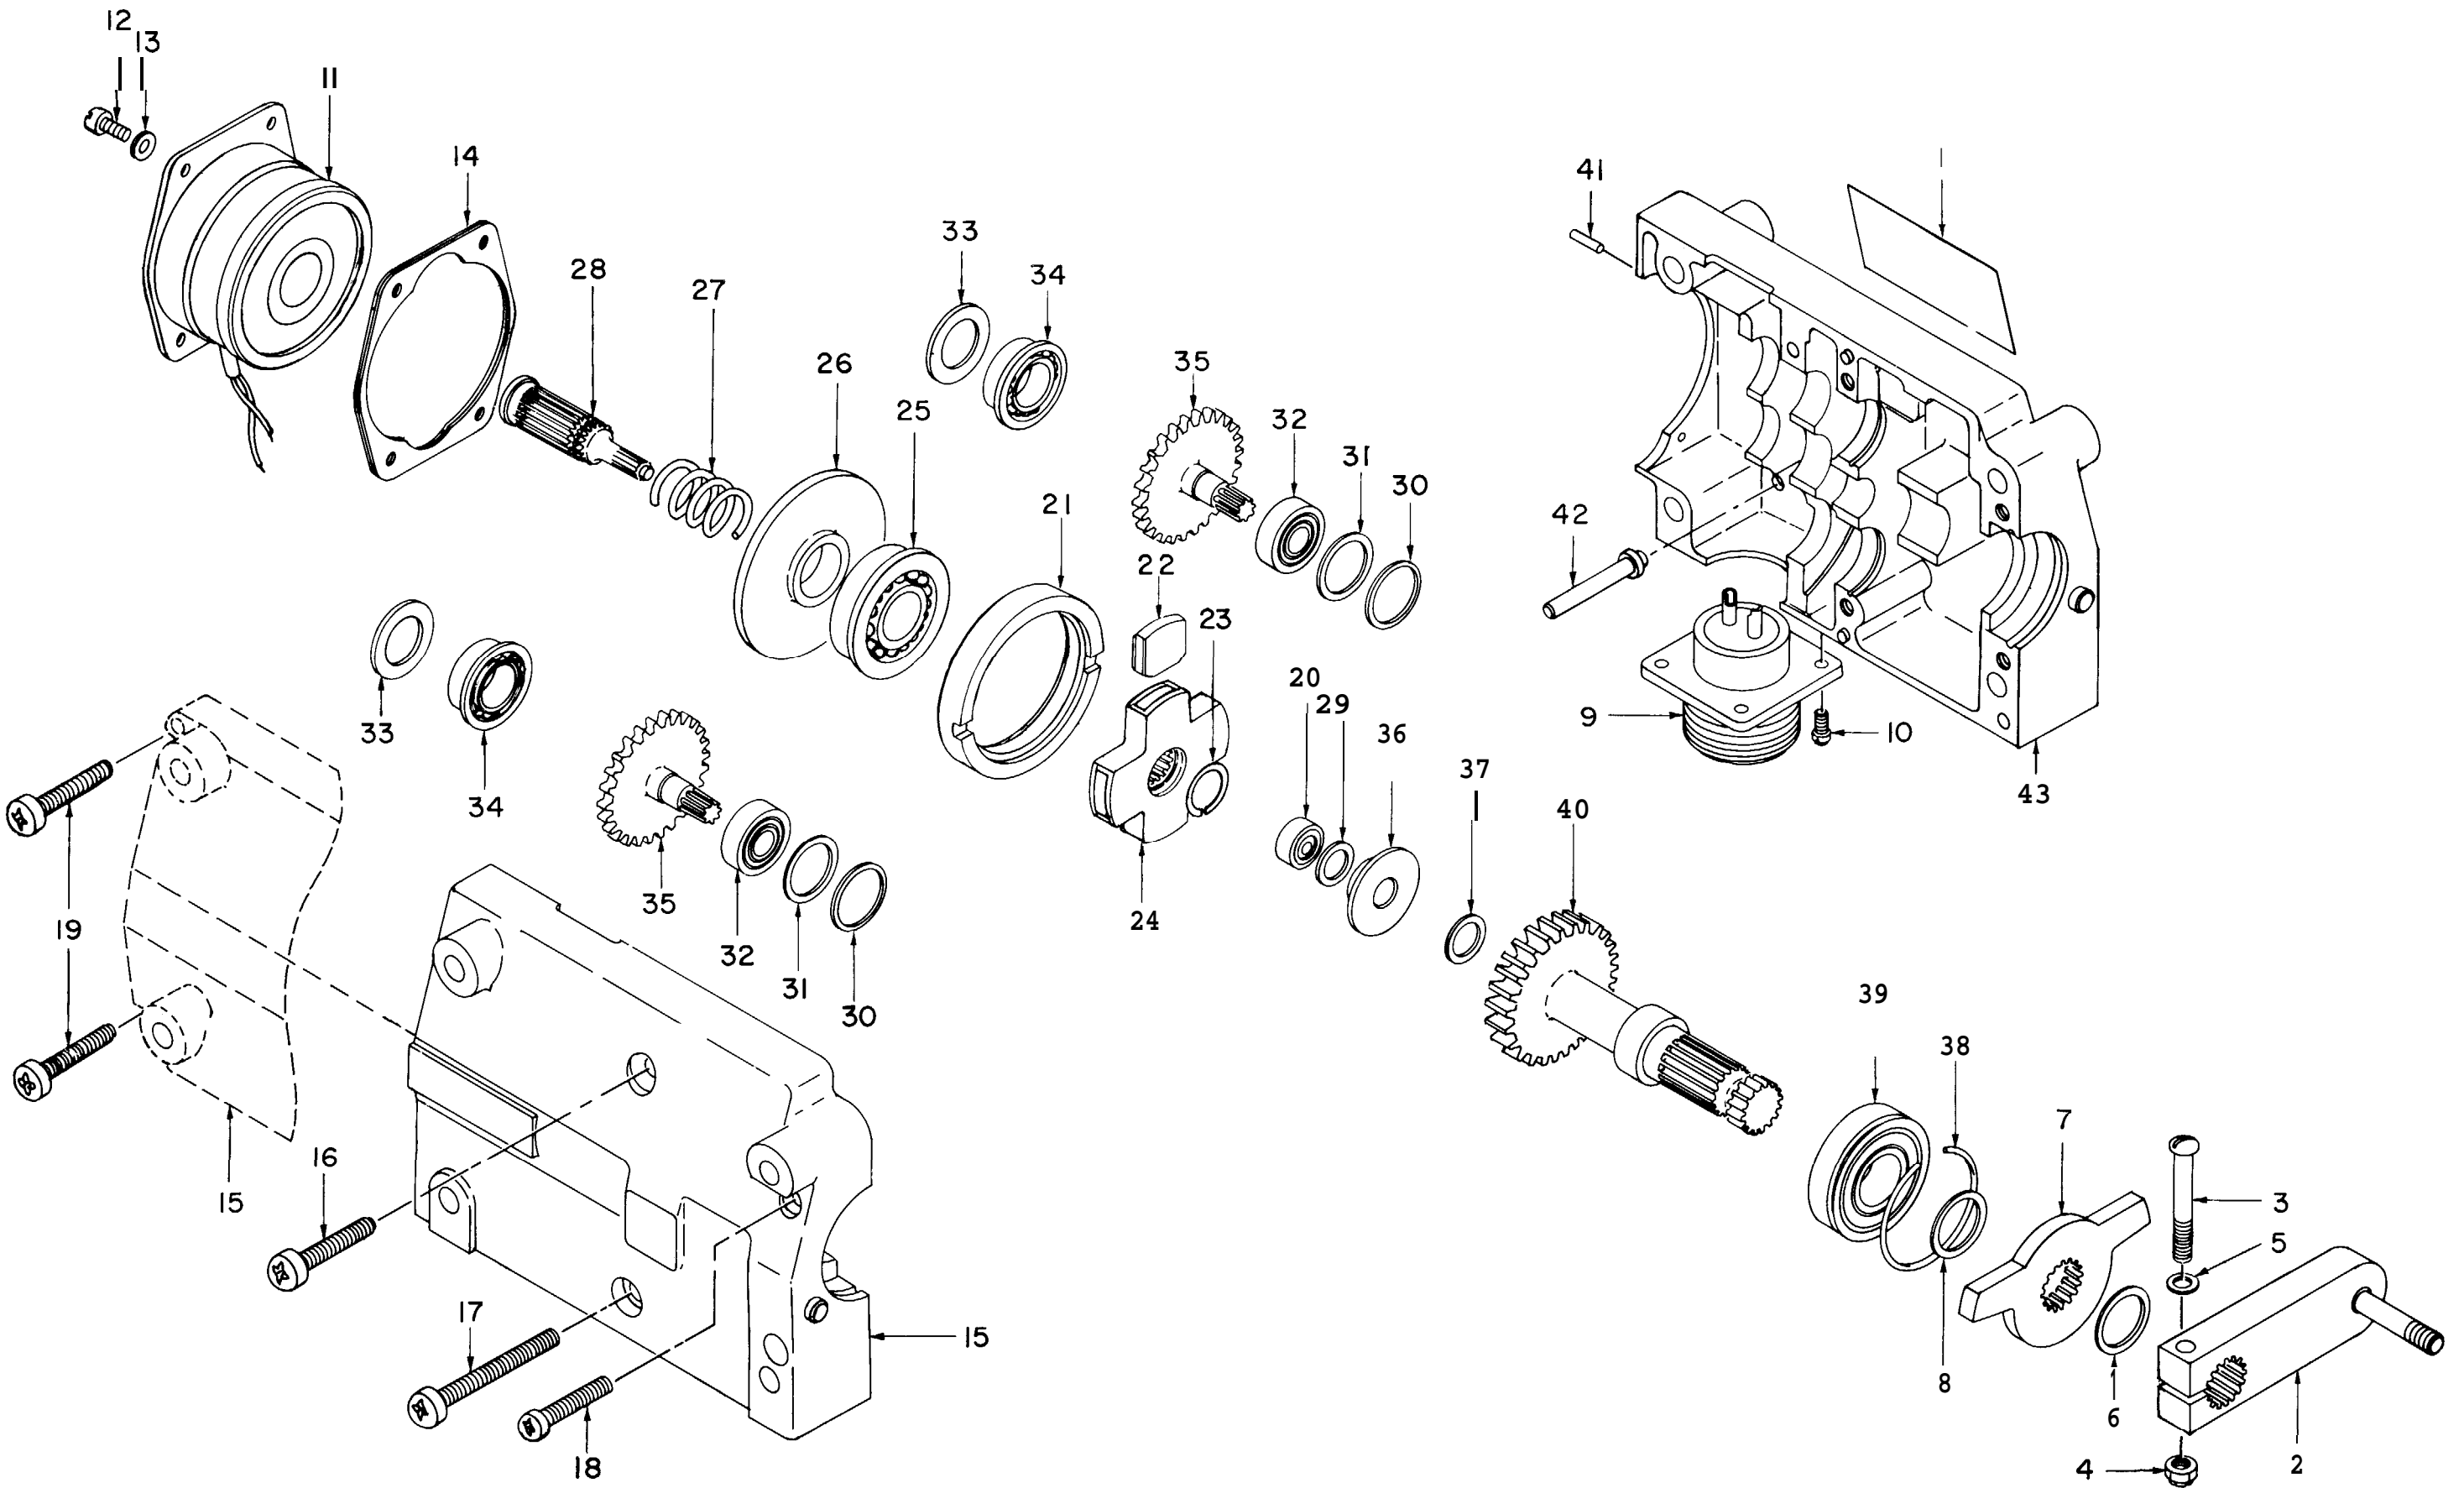

Figure 5-2. Magnetic Brake, Exploded View, Part No. R460M15-11.
b. Do not remove identification decal (1, figure 5-2) unless it is illegible or otherwise damaged and requires replacement.
Insure that gear housings (15 and 43, figure 5-2) have identical matched numbers before starting assembly procedures.